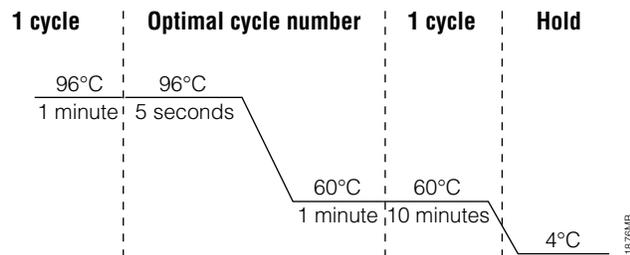

Figure 31. Thermal cycling protocol for the GeneAmp® PCR System 9700, Veriti® 96-Well Thermal Cycler and ProFlex® PCR System.
2. Select and run the recommended protocol, which is provided below and in Figure 31. The total cycling time is approximately 1 hour.